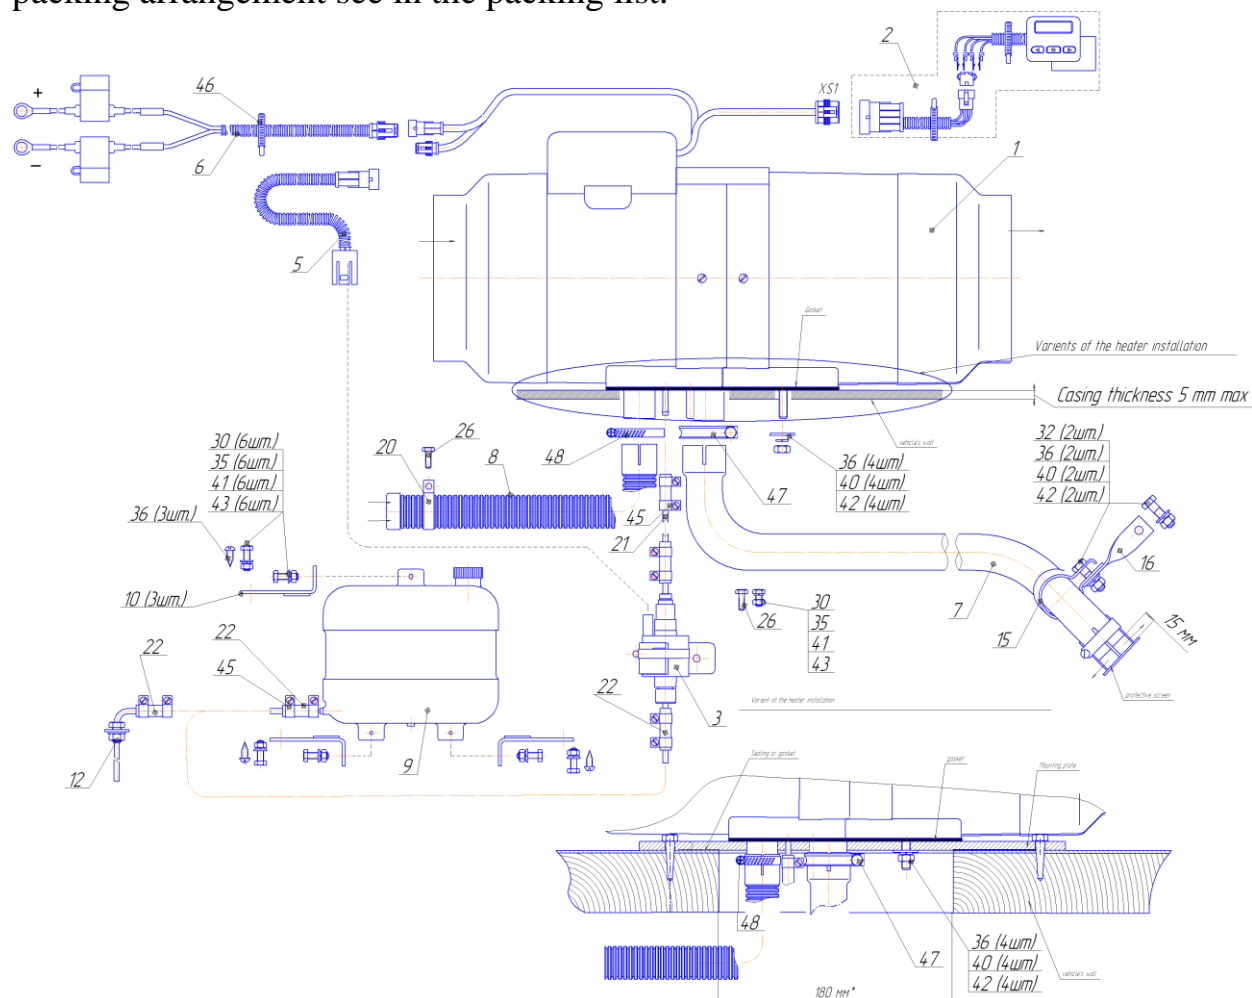
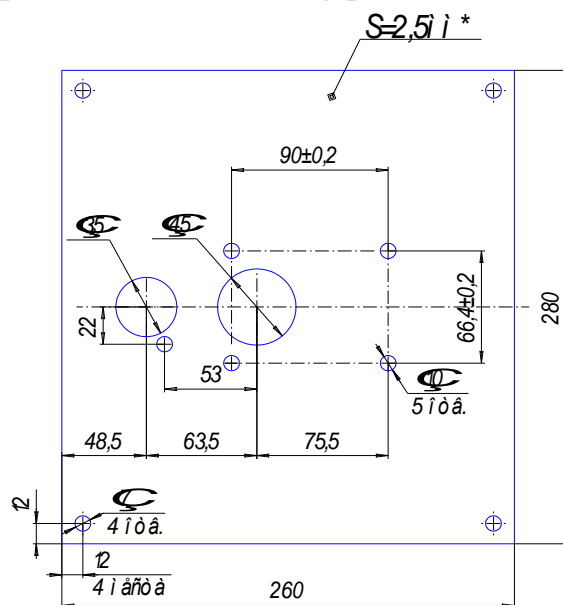

Figure 7.1 – Connection Diagram of Basic Heater Components
Fig.8.3 Mounting plate
See Figure 7.1 for scope of supply and connection diagram of basic heater components PLANAR-8DM-24. For list of basic heater components, see Table 3. True packing arrangement see in the packing list.
2. to attach sealing plate to the heater see fig.7.1 (this plate is possible to be made of steel sheet with min thickness 2.5 mm see figure 8.3)
3. to connect exhausting pipe, air intake, fuel supply harness to the heater and fix the heater with screws to the vehicle casing see fig.7.1.